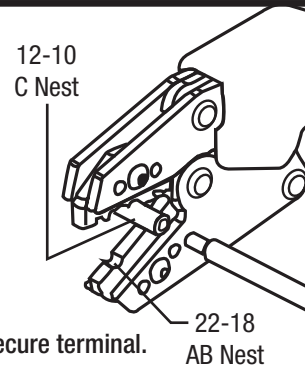

Figure 3
2. Position terminals/splices in proper nest as shown in Figure 3.